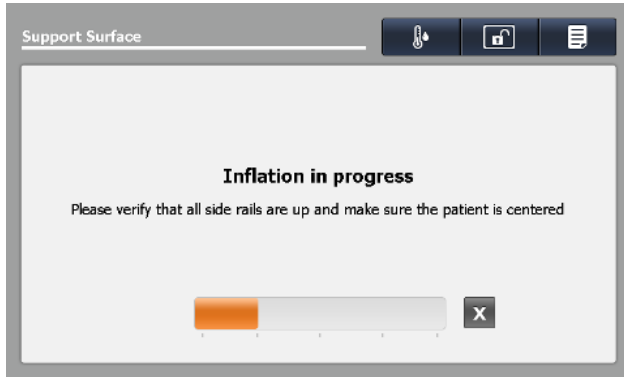

Figure 55 – Turn assist inflation in progress
**Note** - Tap **X** to cancel Turn Assist and return to the Turn Assist selection screen or do nothing to allow inflation to complete. The Inflation in progress window is displayed (Figure 55).